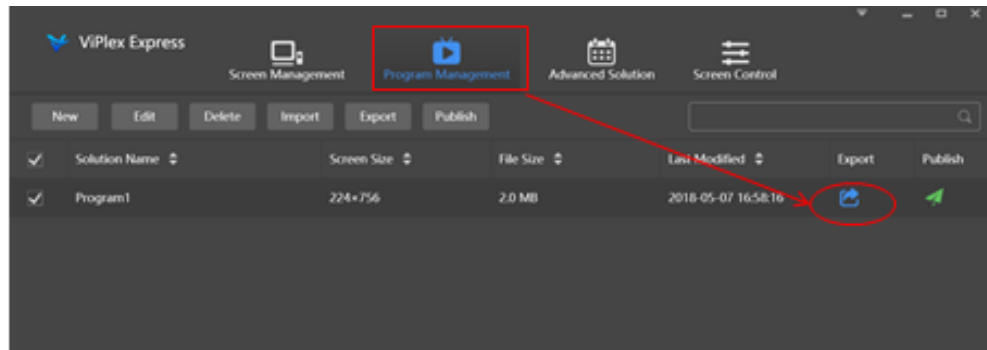

fig 7.20
a. Plug the USB to PC, click [Product Management], select the right playlist, click  to export content to USB, please refer to fig 7.20.